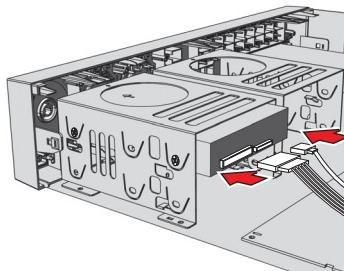

Figure 10. Reconnecting the Data and Power Cables
2. Reconnect the SATA data and power cables for each HDD (refer to Figure 10):